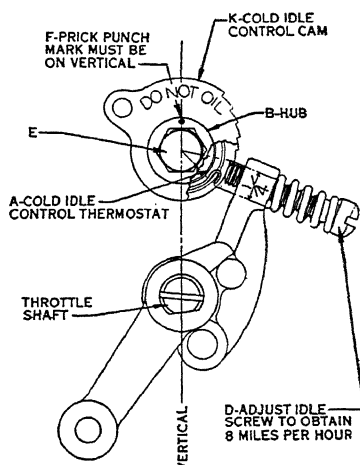

Fig. 77. Cold Idle Control
**Cold Idle Control.** The cold idle control, Fig. 77, consists of a thermostatically operated cam *K* mounted on the carburetor heat riser. This cam serves as the stop for the idle adjusting screw *D*. The function of the cold idle control is to provide a fast idle speed during the warming up period of the engine. This speed increases or decreases as the temperature of the riser changes. The variable
Warm up the engine. The idle adjusting screw *D* should now contact the cam *K* on its thin portion and within the  $\frac{1}{4}$ -inch limit adjoining the first raised section of the cam. See Fig. 77. If the idle adjusting screw does not contact within the limit shown, the cam hub may be rotated slightly in order to bring  $\frac{1}{4}$ -inch section under the idle screw. If it is necessary to rotate the hub enough to move the center punch mark *F* more than 5 degrees away from its normal top position, a complete new cam assembly should be installed. All moving parts of the cam assembly should operate freely and no oil should ever be used on them.